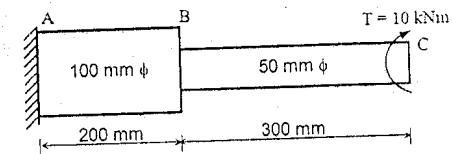

Figure.7
- Que.6. a) Two shaft AB and BC are connected in series as shown in fig. 7. The diameters of AB and BC are 100 mm and 50 mm respectively and their lengths are 200 mm and 300 mm respectively. Both the shafts are made of the same material having modulus of rigidity as  $8 \times 10^4 \text{ N/mm}^2$ . Determine **6 Marks**